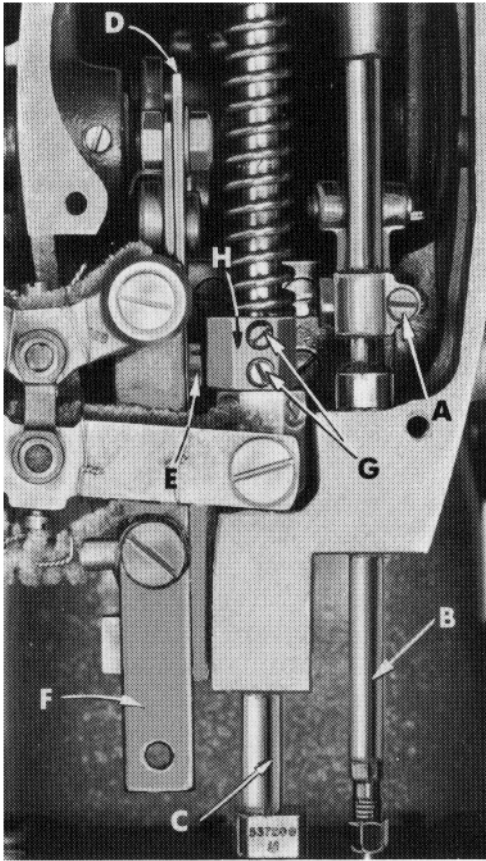
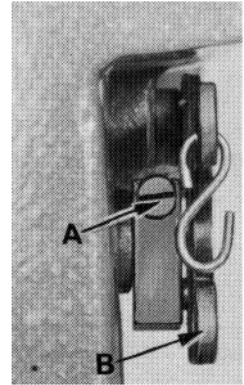

Fig. 3
Fig. 12
The height of the needle is correct when the top of its eye is 1/64 inch below the underside of the looper, when the looper point is flush with the left side of the needle. If adjustment is necessary, loosen screw (A, Fig. 3) and move needle bar (B) up or down as required and retighten screw (A).
If adjustment is needed, loosen tension release lever screw (A, Fig. 12), located at the back of the machine and move tension disc separator as required. Retighten screw. After adjustment there should be no binding at any point.
The height of the presser bar (C, Fig. 3) is set correctly if it is possible to remove the presser foot when the foot lifter lever (B, Fig. 12) is fully depressed.
If adjustment is necessary, turn handwheel in operating direction until the needle bar is in the low position. Loosen screws (G, Fig. 3), then, while holding presser foot down on the throat plate surface, pry up presser bar connection and guide (H) with a screwdriver to obtain the 1/16 inch setting and retighten screws.